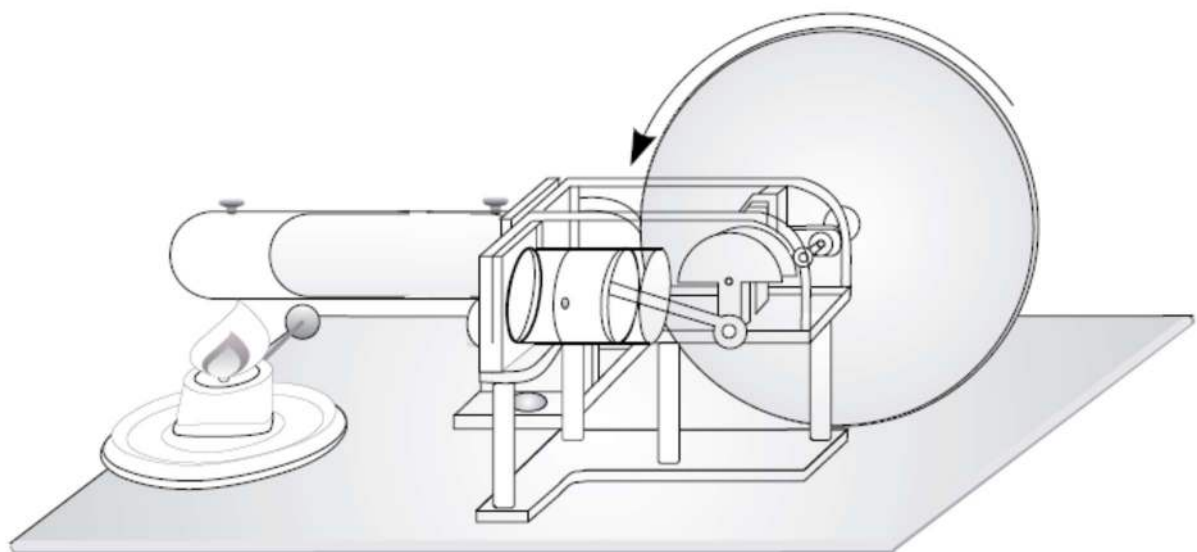

Fig.2 The Stirling motor as a heat engine
- Move the displacer piston to its farthest-back position, and after a short heating-up time (about 1-2 minutes) push the flywheel gently in the clockwise direction (as seen from the motor-generator unit) to set it turning (see Fig. 2).